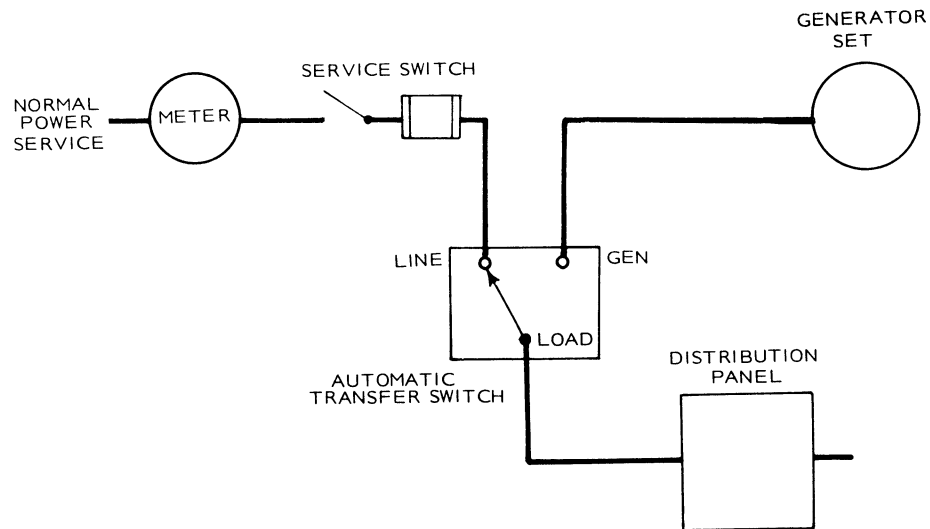

FIGURE 5. PROTECTION FOR COMPLETE ELECTRICAL SERVICE
1. Generator set protects complete electrical service (Figure 5).